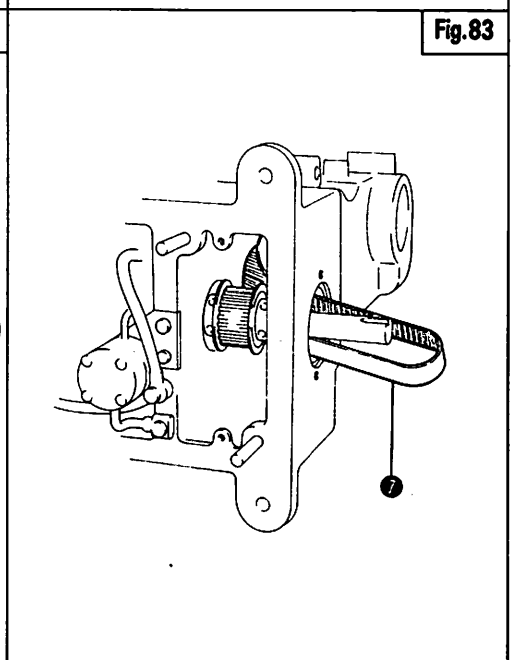

Fig. 83
4. Refer to Fig.83 and remove Timing Belt ⑦.